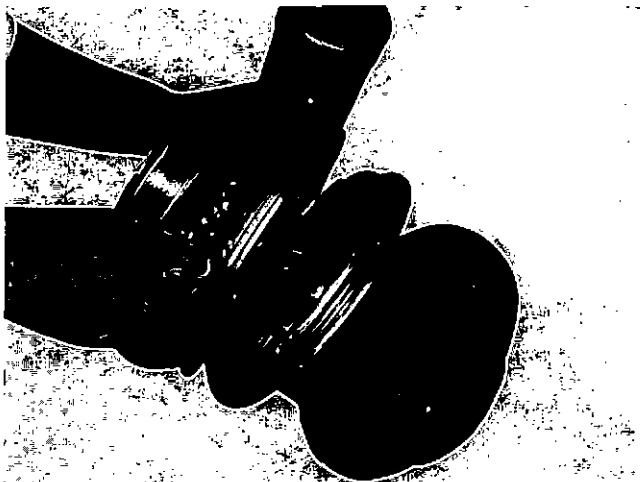
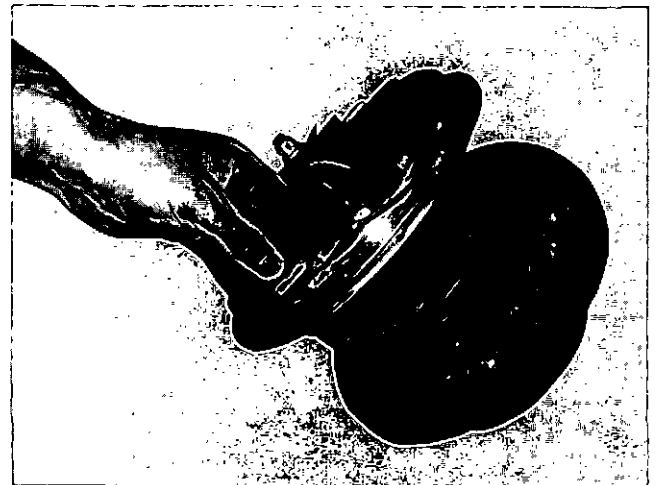

Fig. 5-2, (TA5). Removing the compressor housing
Fig. 5-3, (TA6). Removing the O-ring from the back plate
4. Remove the compressor housing, Fig. 5-2. Remove the O-ring (if used) from the backplate, Fig. 5-3. Discard the O-ring.